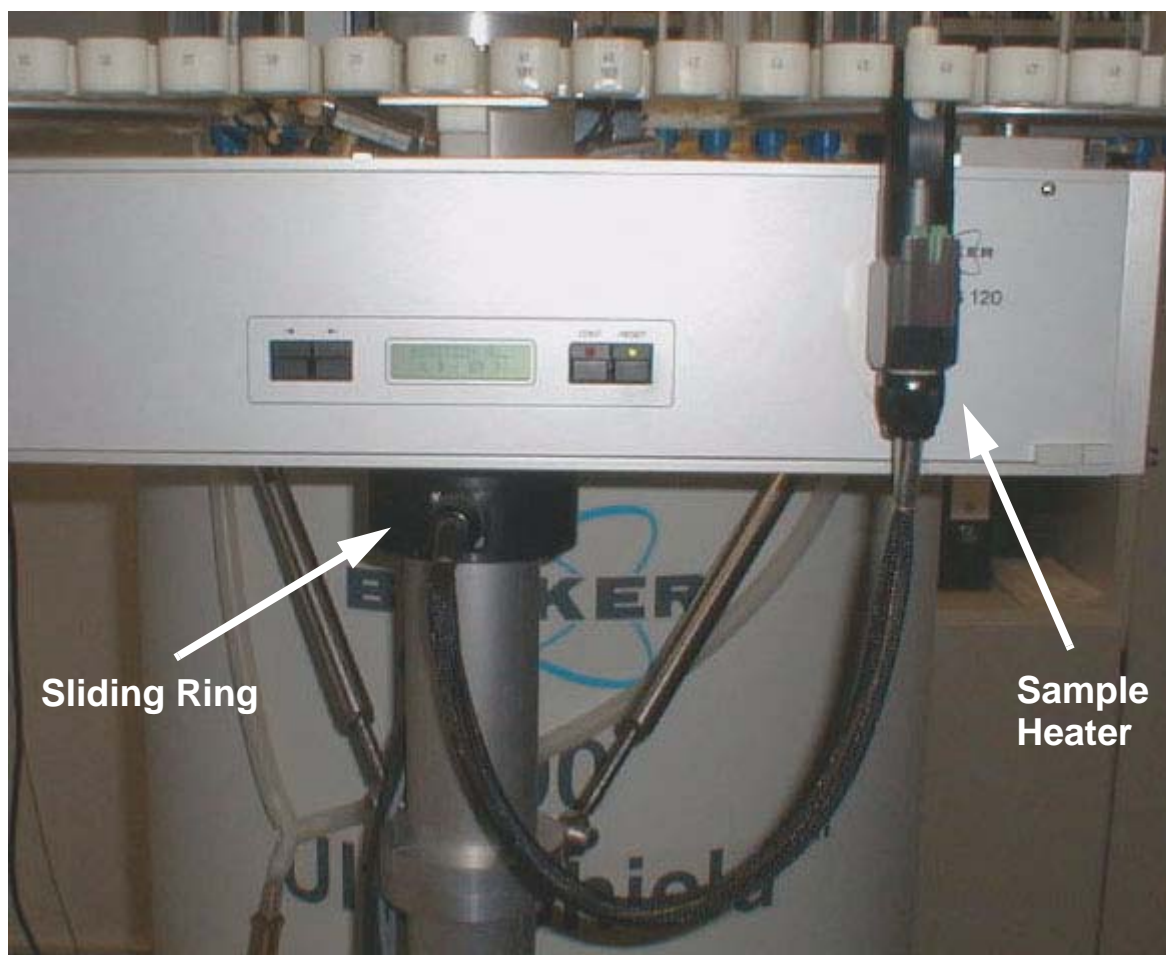

Figure 13.2. The B-ACS Sample Heater Mounted on the Cabinet Assembly
In addition, a sliding ring for transmission from the DC power supply, must be placed directly under the cabinet (see **Figure 13.2**).
- B-ACS Sample Heater(s) 120C Part No. H1385 (**Figure 13.2.**).
H5886	B-ACS Sliding Ring ( Figure 13.2. )
Connect the Power Supply (Part/No. H1455) to the sliding ring (Part/No. H5886) under the cabinet using the enclosed cable (**Figure 13.2.**).
Connect the sliding ring (Part/No. H5886) to the Heater Supply 2 (**Figure 13.2.**).